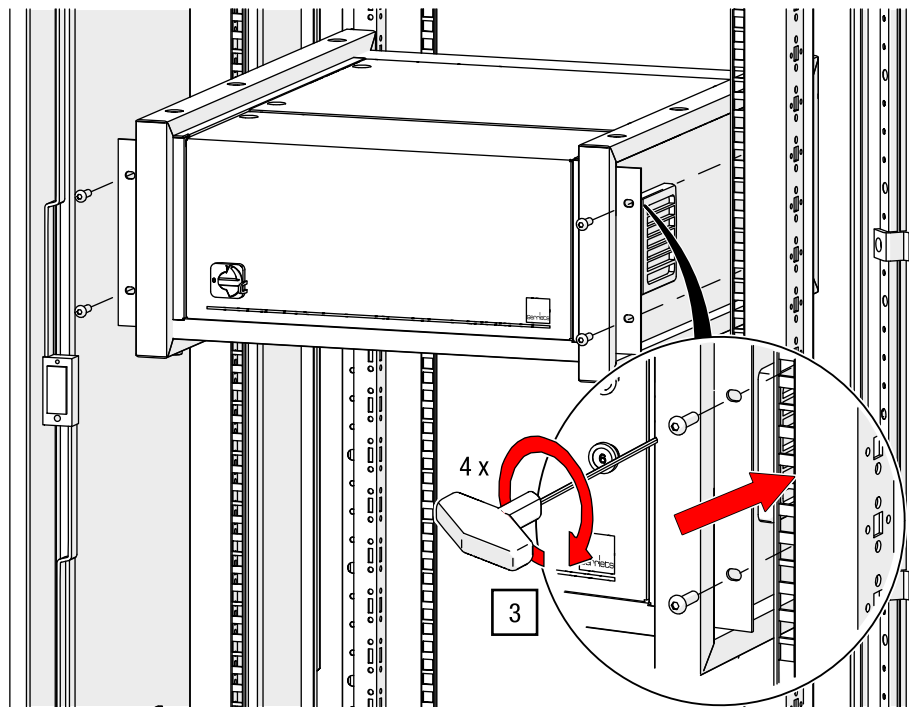

Fig. 22: Screwing the G-FRAME into the rack (control unit model may differ)
3. Position the G-FRAME control unit in the 19-inch rack and screw it in place using suitable mounting material (see Fig. 22).